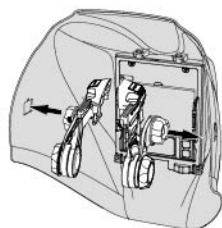

fig.12
- Match each adapter with the correct side of the helmet shell (See fig.12).